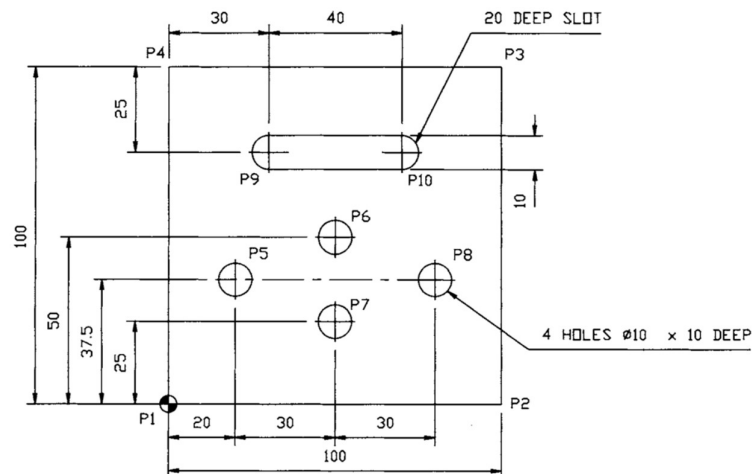

Figure Q5.7 Mild steel component
- (ii) Draw a Two-handed chart for the situation, you might be come across to prepare specimen for gear manufacturing in the machine shop during your laboratory classes. (8)
10. (a) For the component drawing below (Fig. Q5.7), identify: (16)